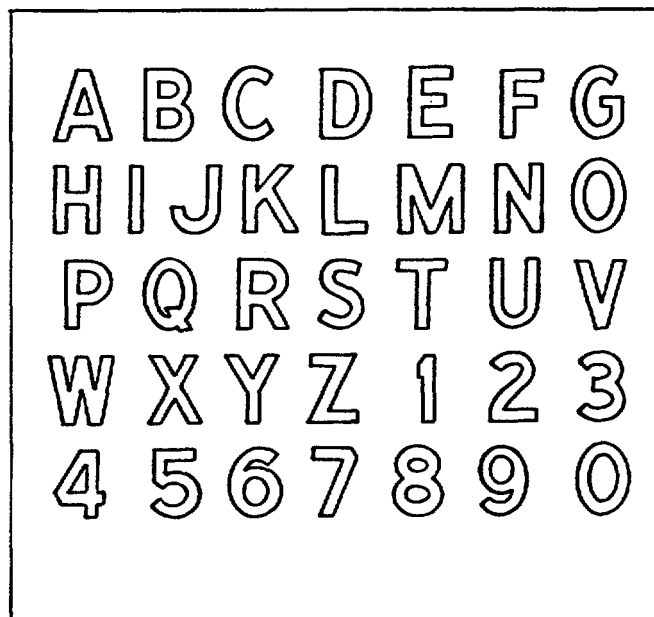

Figure 1. Gothic style alphabet and numerals.
a. All letters and numerals used in the marking of vehicles and equipment will be of the gothic style illustrated in Figure 1. Thickness of the characters (stroke width) will be between 1/6 and 1/7In of their height.